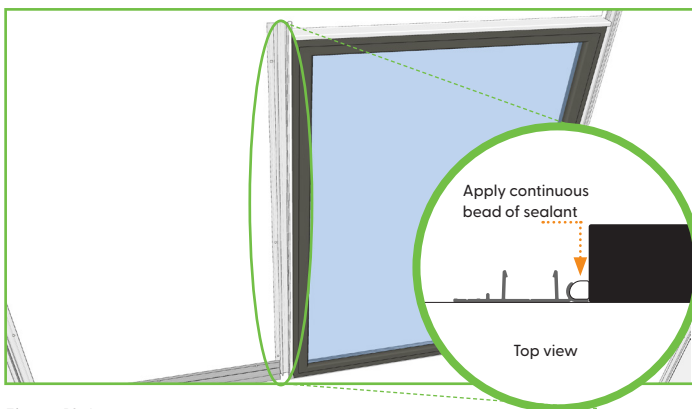

Figure 18.4
10. Apply a continuous bead of sealant to EZ.19 back plate caulking channel. (Figure 18.4).